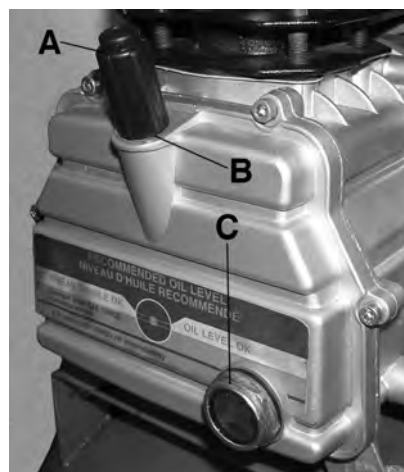

FIGURE 7
To change oil, oil must be drained from the crankcase by removing oil sight glass (C) Fig.7. Drain oil and replace oil sight glass. To fill the crank case with oil (approx. 450ml), first unscrew and remove oil breather cap (A), pour air compressor oil (SAE 10W30 or SAE 10W20 weight non-detergent oil) into crankcase oil opening (B) until the oil level reaches the center red dot on the oil sight glass (C). Retighten oil breather cap (A).